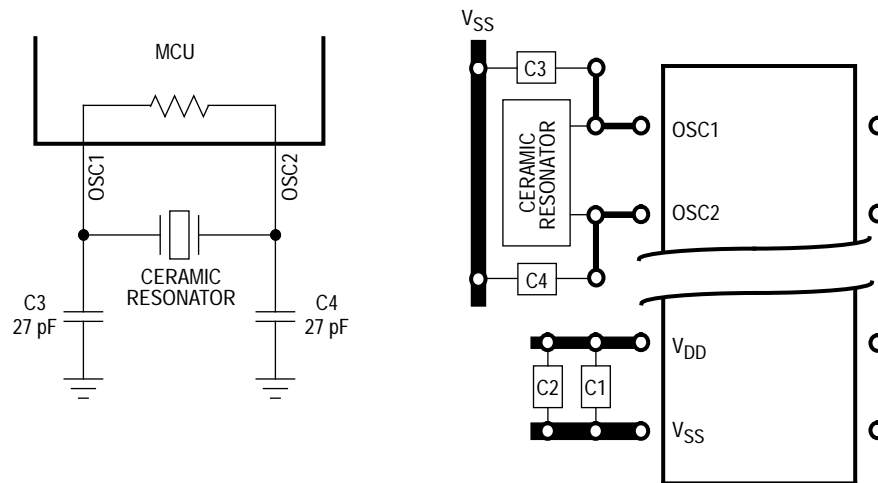
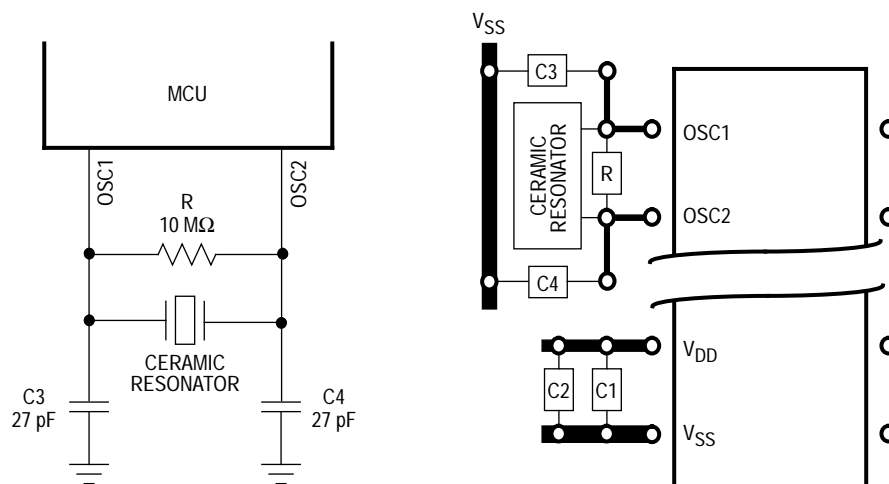

Figure 1-6. Ceramic Resonator Connections with Feedback Resistor Mask Option
Figure 1-7. Ceramic Resonator Connections without Feedback Resistor Mask Option
2. A ceramic resonator as shown in Figure 1-6 and Figure 1-7
In cost-sensitive applications, a ceramic resonator can be used in place of the crystal. The circuit shown in Figure 1-6 or Figure 1-7 can be used for a ceramic resonator. The resonator manufacturer's recommendations should be followed, as the resonator parameters determine the external component values required for maximum stability and reliable starting. The load capacitance values used in the oscillator circuit design should include all stray capacitances. The ceramic resonator and components should be mounted as close as possible to the pins for start-up stabilization and to minimize output distortion. An internal start-up resistor of approximately 2 M Ω is provided between OSC1 and OSC2 for the ceramic resonator-type oscillator as a MOR programmable mask option.